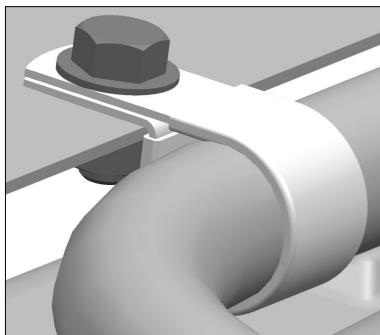

Figure 3
Step 4: Install deflector support bands onto hopper support tube as shown in (figure 3). Continue by installing deflectors to support bands as shown in (figure 3).